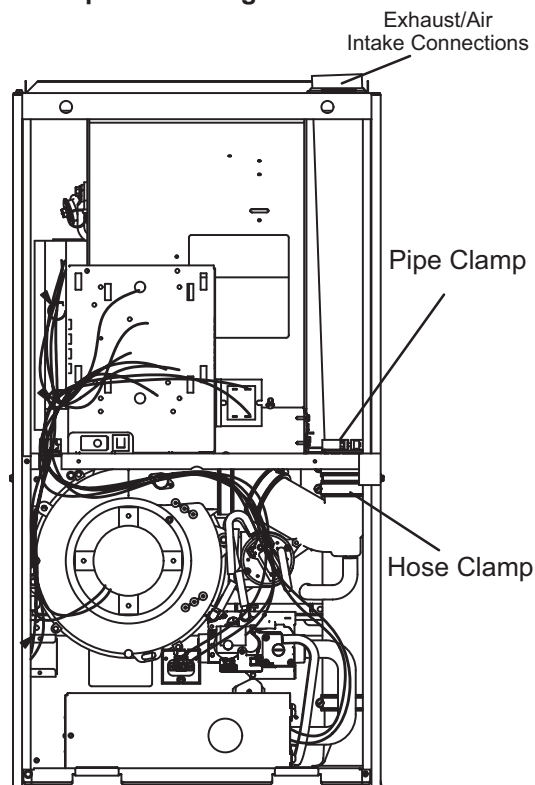
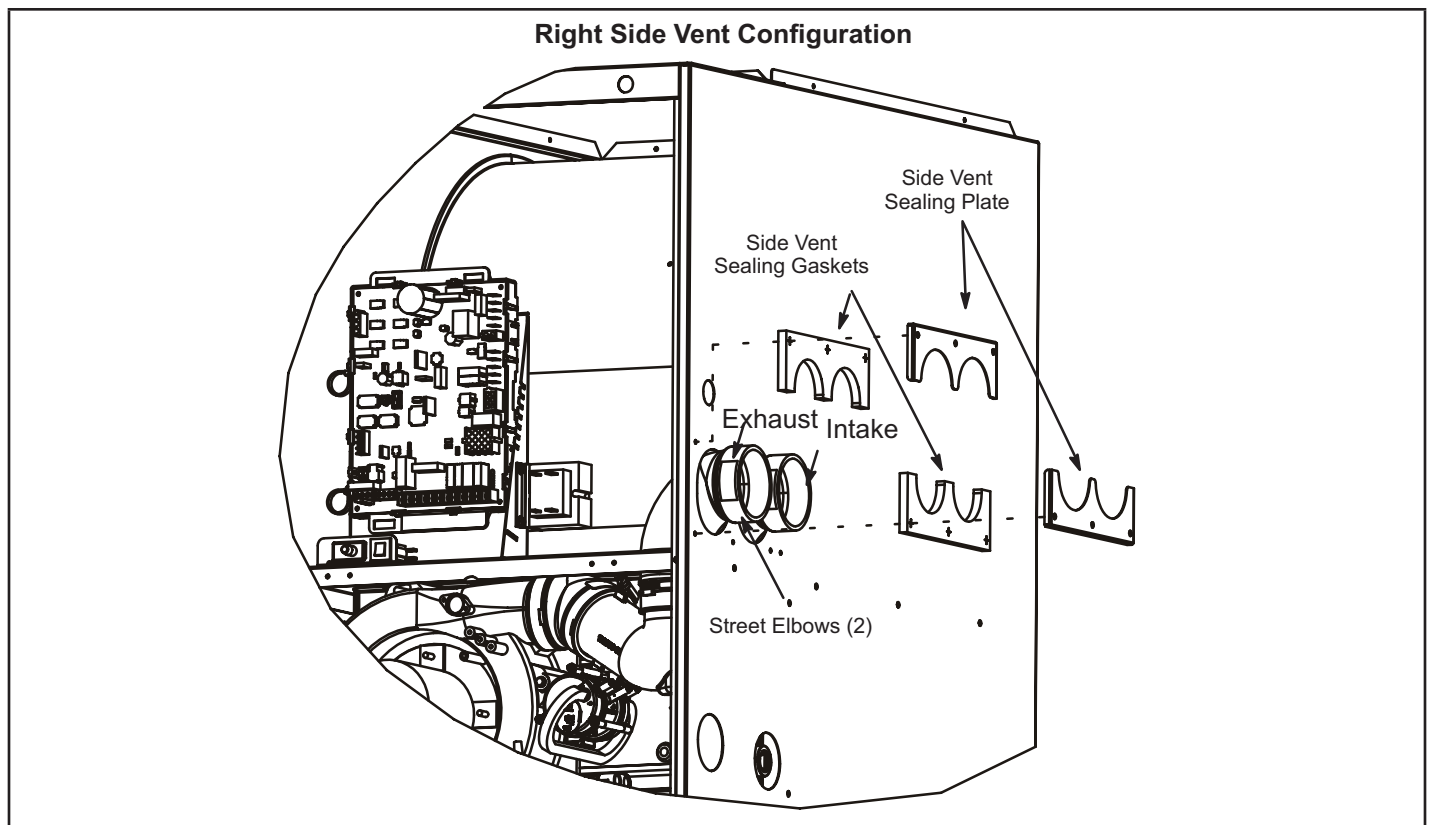

FIGURE 15
FIGURE 17
The SLP99DF is shipped with vent exhaust / air intake connection at the top cap. See FIGURE 15. Using parts provided, the furnace may be field modified to have these connections on the right side of the furnace cabinet. See FIGURE 17 and follow the steps below. For left side venting order kit 87W73.
- 2 - Loosen hose clamps which attach rubber fittings to the white PVC pipes inside the vestibule area. See FIGURE 15.
- 3 - Loosen the clamp which secures the pipes at the blower deck. See FIGURE 15.
- 11 - Peel protective backing from side vent sealing gaskets (2) and apply to side vent sealing plates (2) as shown in FIGURE 17.
- 12 - Install the side vent sealing plates and gaskets on the exterior of the cabinet as shown in figure 15. Secure with six mounting screws (four reused and two provided from bag assembly). Holes are pre-punched in the parts and cabinet, no drilling is required.